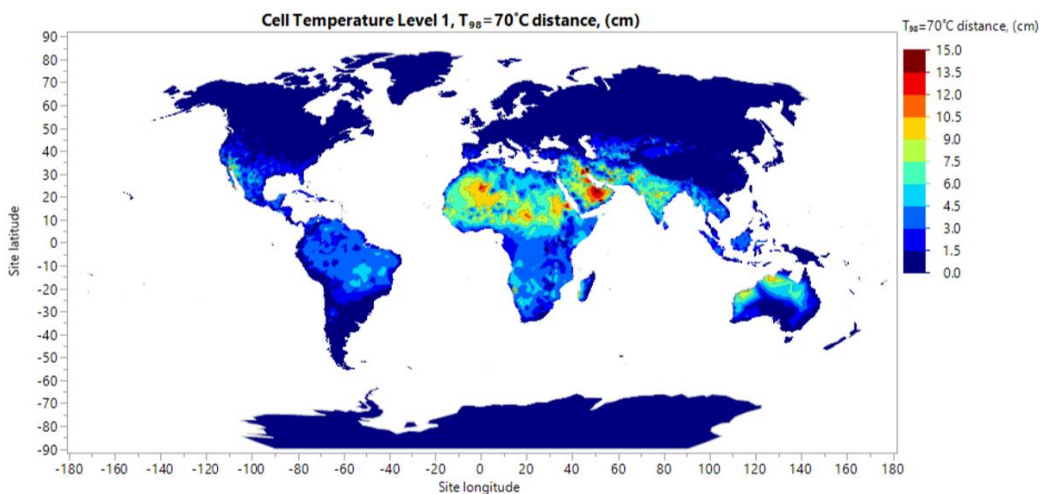
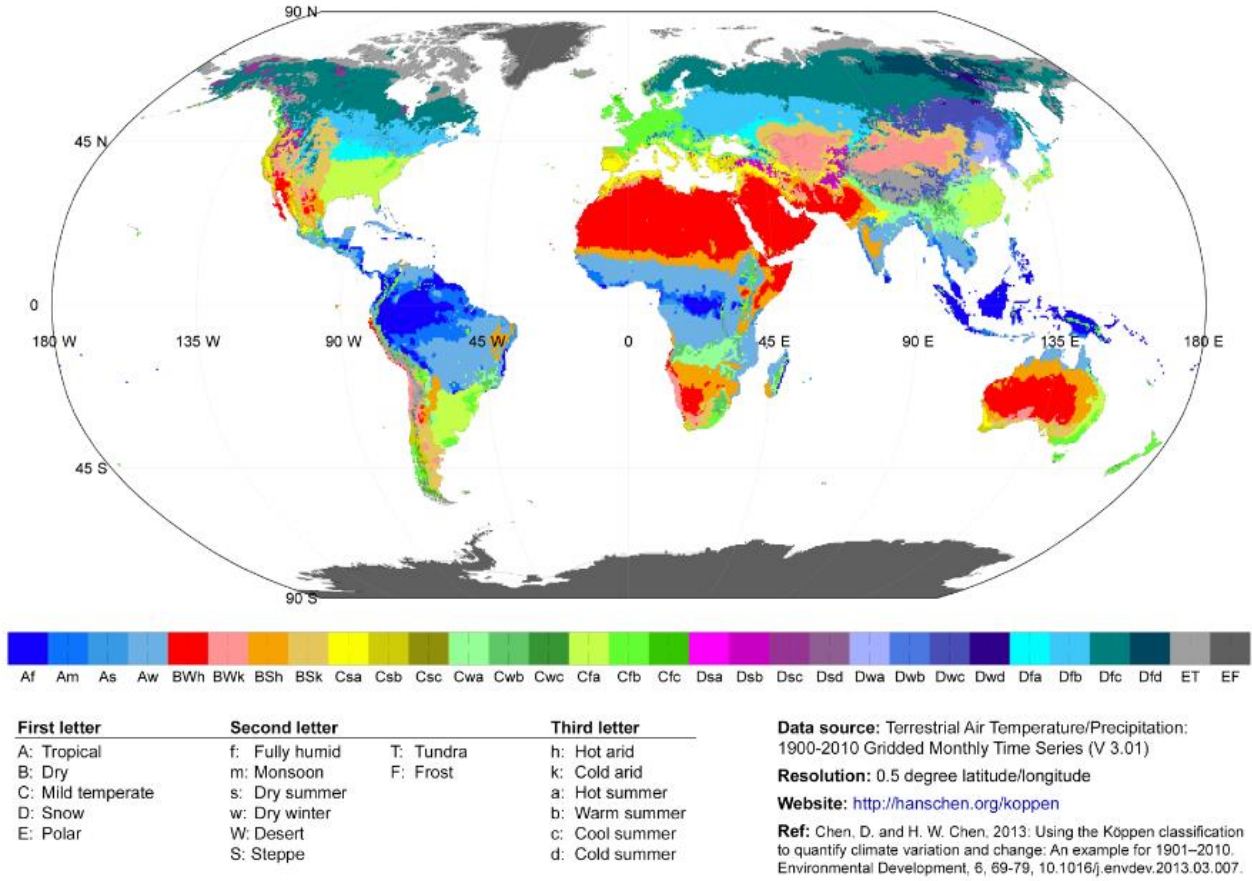

Figure A.2 - Mounting distances to roof around the world with which the 98-percentile temperature of cell, $T_{98} = 70$ °C
Figure A.3 Spatial distribution of the Köppen climate types for the period from 1901 to 2010
- Figure A.2 gives recommended mounting distances to roof around the world according to IEC committee's recommendation except for BWh area. If you want to determine a specific distance on your project located in the BWh climate area, please contact Canadian Solar's technical support. Figure A.3 shows climate area distribution of the Köppen climate types for the period from 1901 to 2010. For more information about Köppen climate types, please refer to <http://hanschen.org/koppen>.